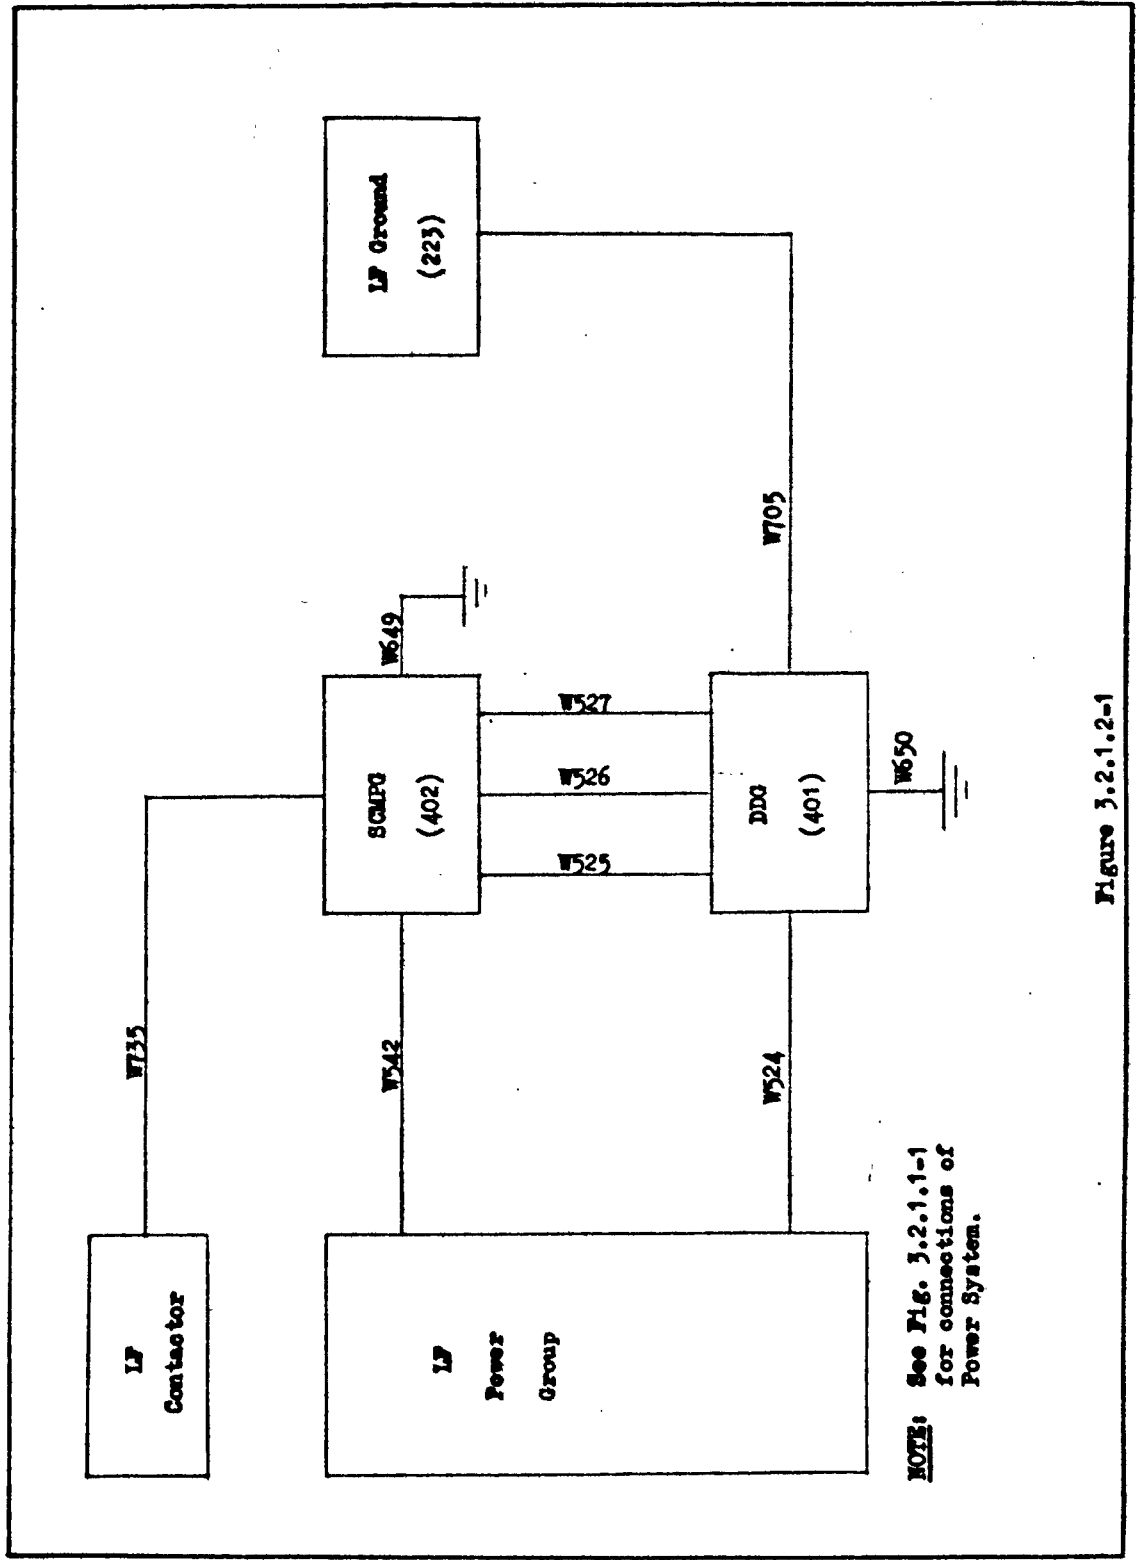

Figure 3.2.1.2-1
3.1 Connect the LF Power System per Figure 3.2.1.1-1.